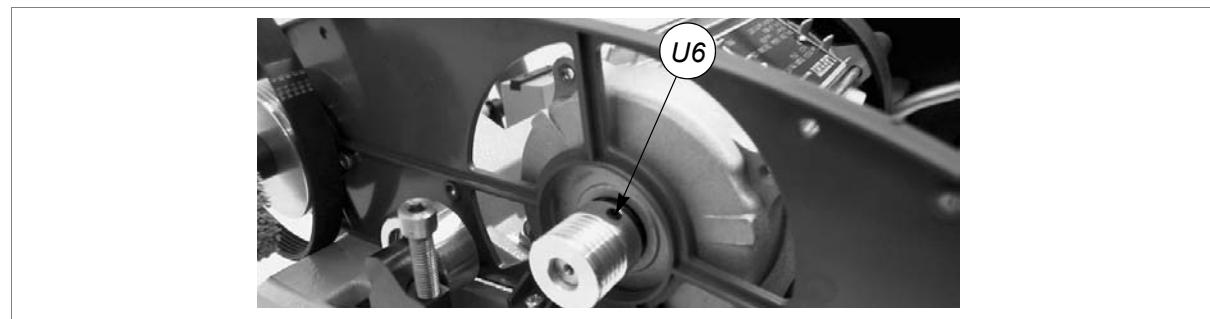

Fig. 46
- 13) Loosen the grub screw (U6) on the motor pulley (fig.46). Remove the pulley and fit to the new motor. Secure by tightening the grub screw (U6).